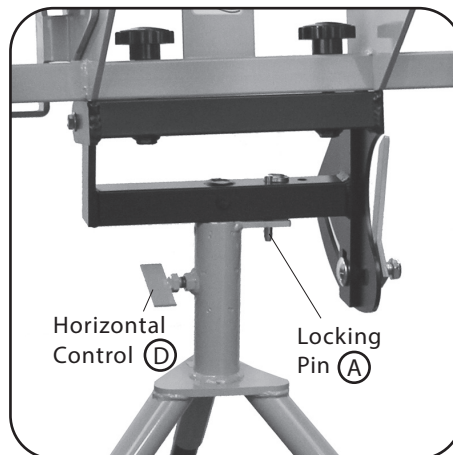

Figure 4 Lock pin inserted to lock throwing head into position for transporting.
4. Using the elevation control, tilt the throwing head up (to high position) and lock into place (See Figure 4). This will facilitate transporting.